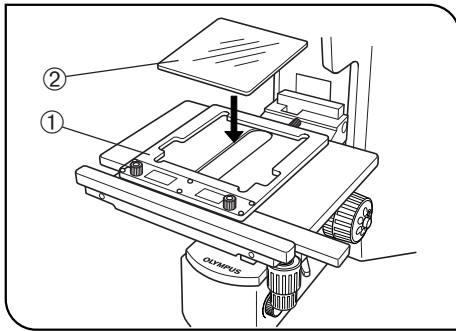

Fig. 9
**Observation with the U-MSSPG Glass Holder Plate (Fig. 9)**
1. Place the glass plate ② gently on the glass holder plate ①.